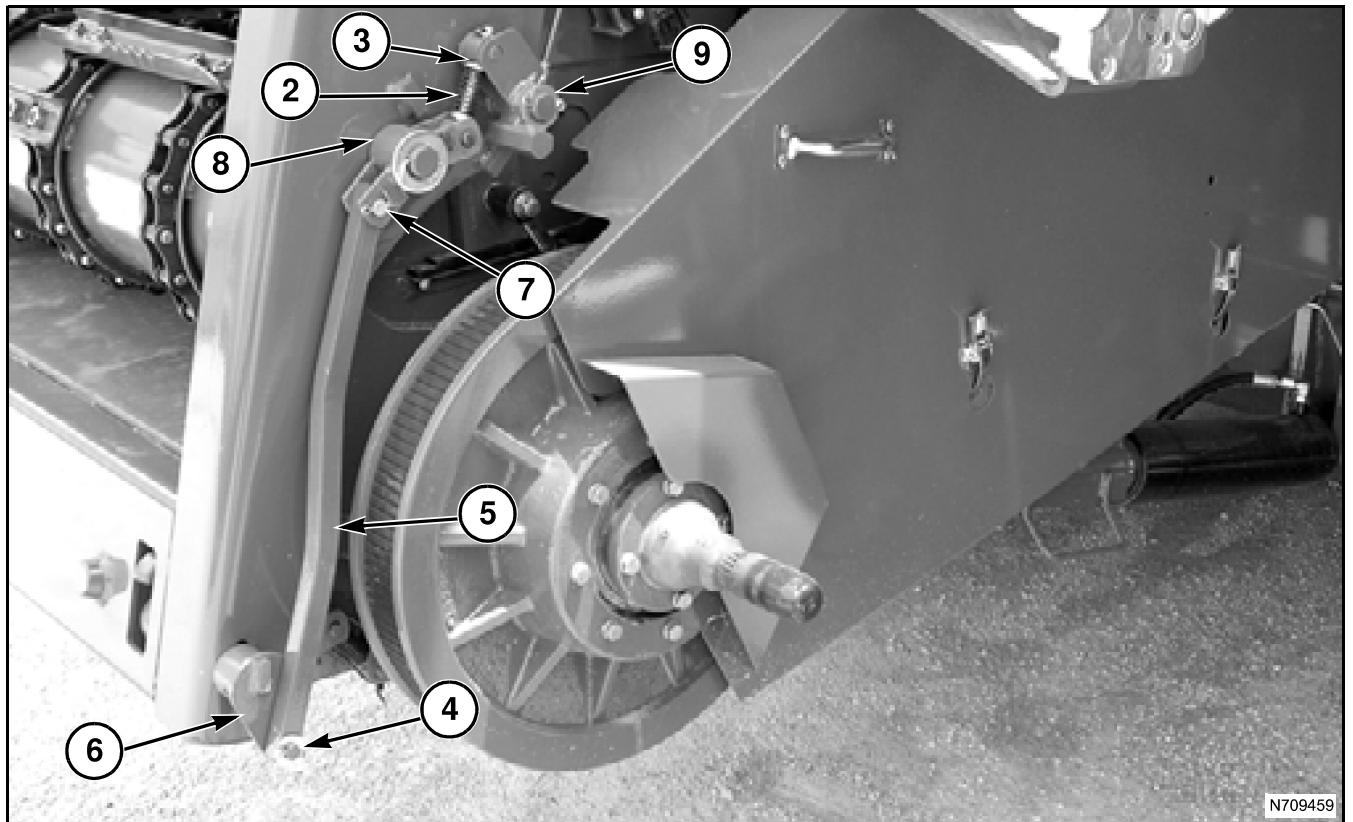

FIG. 743
FIG. 743: If the latch crank linkage assembly does not go over center or is not securely held over center by the latch spring (2), remove or add washers (3) until the latch spring securely holds the latch crank assembly linkage over center.